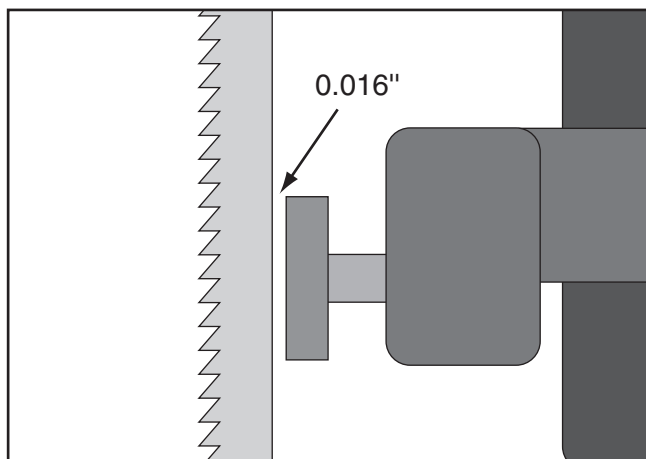

Figure 20. Blade should be aligned approximately 0.016" away from the bearing edge.
8. Use the knurled knob to position the support bearing approximately 0.016" away from the back of the blade as illustrated in **Figure 20**.